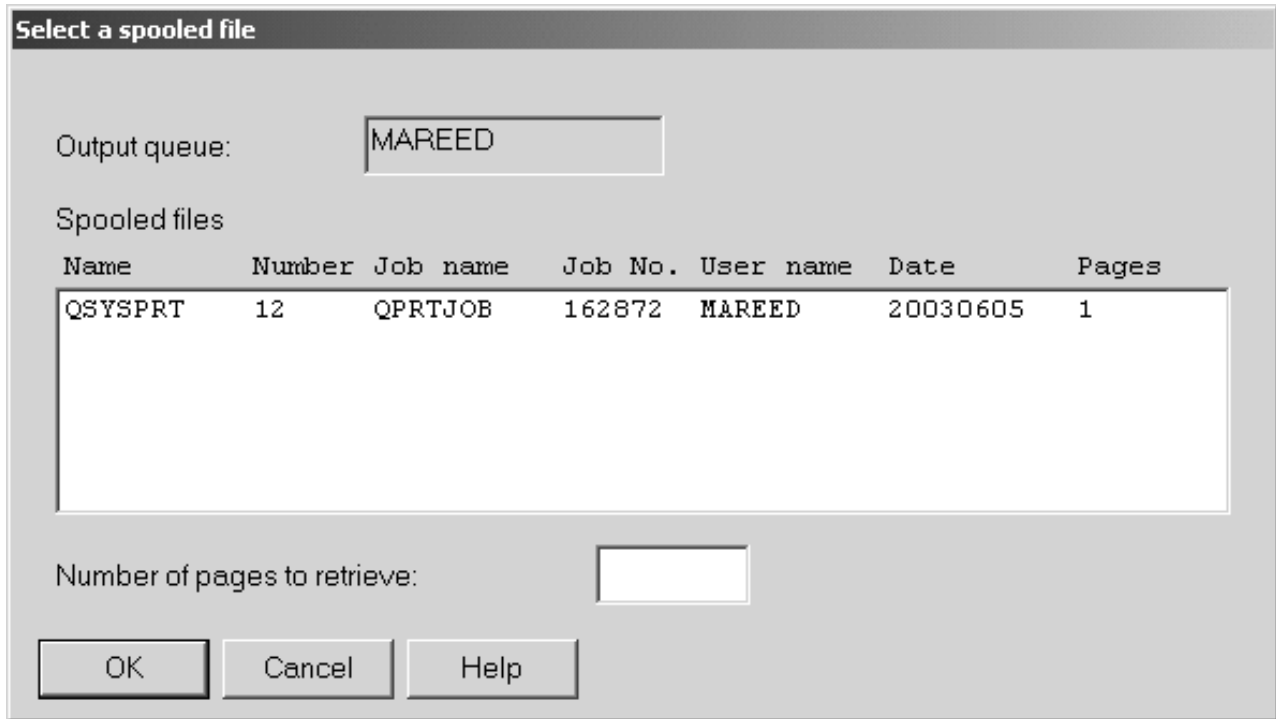

Figure 5. Selection of a spooled file containing sample data
4. The **Select spooled file** dialog displays, as shown in Figure 5 on page 31. This dialog lists all of the SCS and line data spooled files on the output queue that are available for use with Infoprint Designer. Select the one you want to use to create this layout.